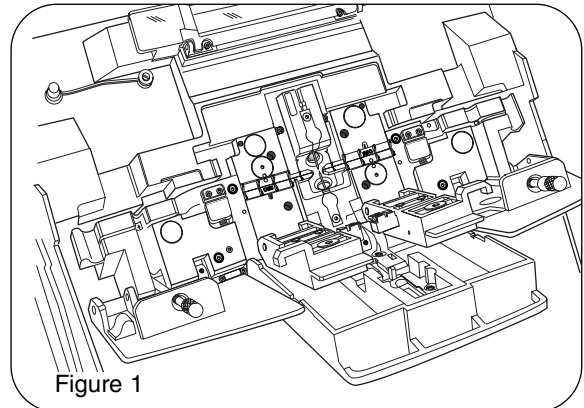

Figure 1
1. Open the electrode flaps and disconnect the splicer from all power sources (Figure 1).